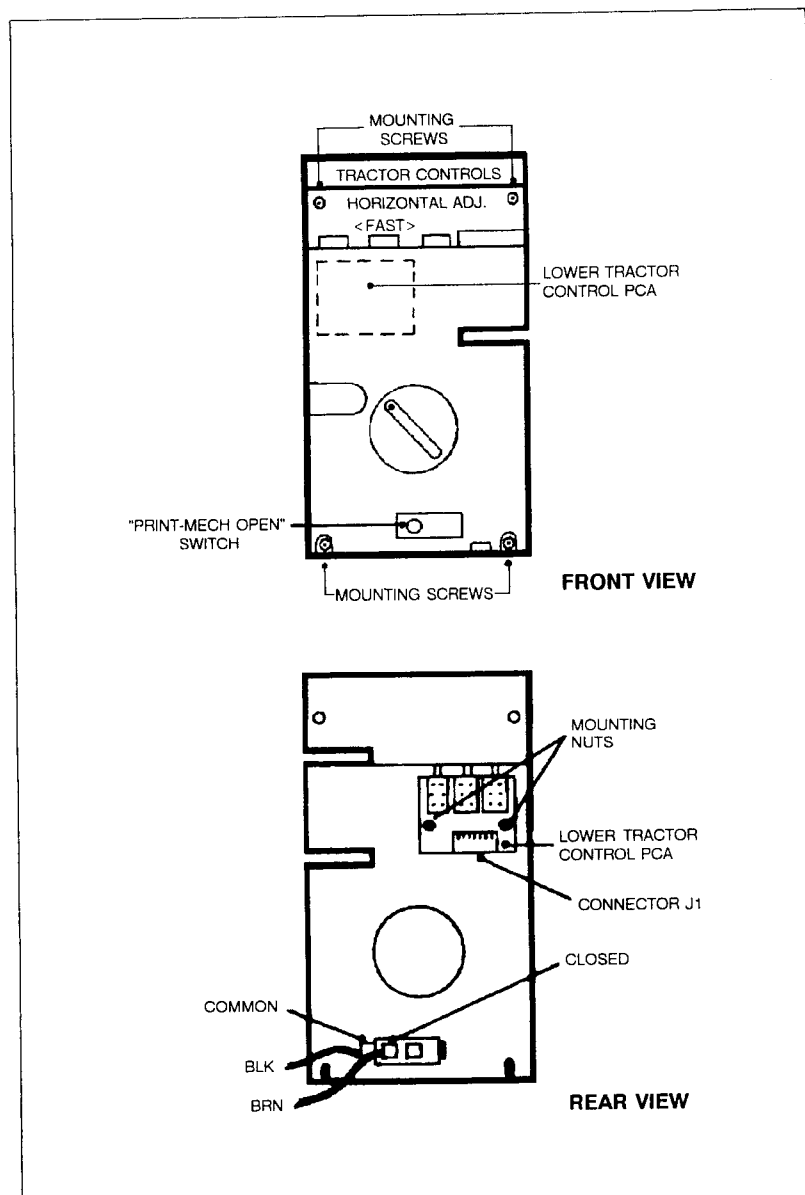

Figure 6-17. Lower Tractor Control PCA
The upper ribbon drive motor is located in the upper right-hand portion of the print mechanism swing gate (Figure 6-17). Removal procedures are as follows:
- g. Using a flat bladed screwdriver, **CAREFULLY** pry the plastic ribbon spool holder off the motor shaft (see Figure 6-17).